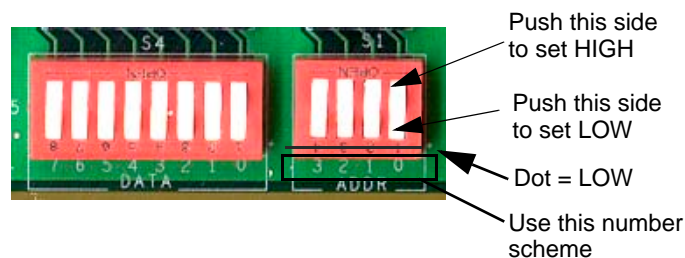

Figure 6-2. Controlling Dip Switch Settings
The 2-level dip switches (DATA[7:0](S4), ADDR[3:0] (S1), RCLKEN[D..A] (S7), INSEL[D..A] (S3), ULC[D..A] (S3), and LPEN[D:A] (S2)) are set HIGH or LOW as illustrated in *Figure 6-2*. Once again, the side of the switch with a dot represents the LOW level side.
Note. Disregard the numbering scheme that is inscribed directly on the DIP switches. Follow the numbering inscribed on the board, directly below each switch. See *Figure 6-2*.
1. Using the ADDR (S1) DIP switches shown in *Figure 6-2*, select the target address. For example, if the target address ADDR[3:0] = 1010, press ADDR0 to the LOW side (see *Figure 6-2*), ADDR1 to the HIGH side, ADDR2 to the LOW side and ADDR3 to the HIGH side.
2. Using the DATA (S4) DIP switches shown in *Figure 6-2*, select the values of the latches for the appropriate address bank. *Table 6-1* provides an example of a control latch configuration for address 10 (ADDR[3:0] = 1010), where DATA[7:0] = 10111010. The colored background represents a logic-1 value and the white background represents a logic-0 value.